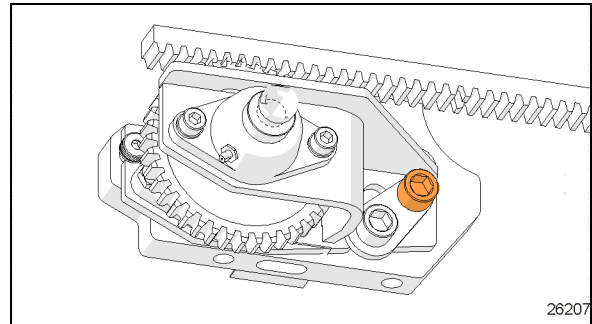
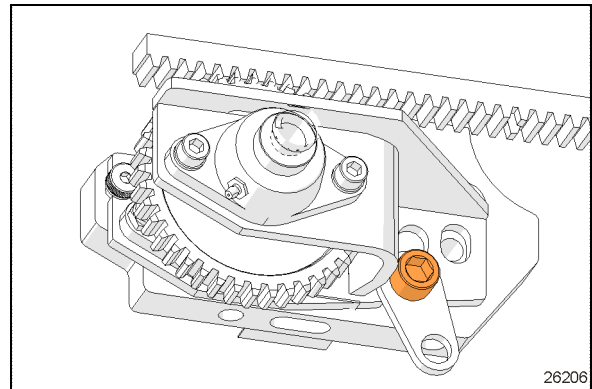

FIGURE 35: REMOVE UPPER SCREW
FIGURE 36: LOWER SCREW, TENSION RELIEVED
1. Remove upper screw as shown in Figure 35
2. Slightly unscrew the lower screw to remove tension on tab. (Figure 36)
15. On the pinion assembly, tighten upper and lower screws (Figure 35, Figure 36) to: